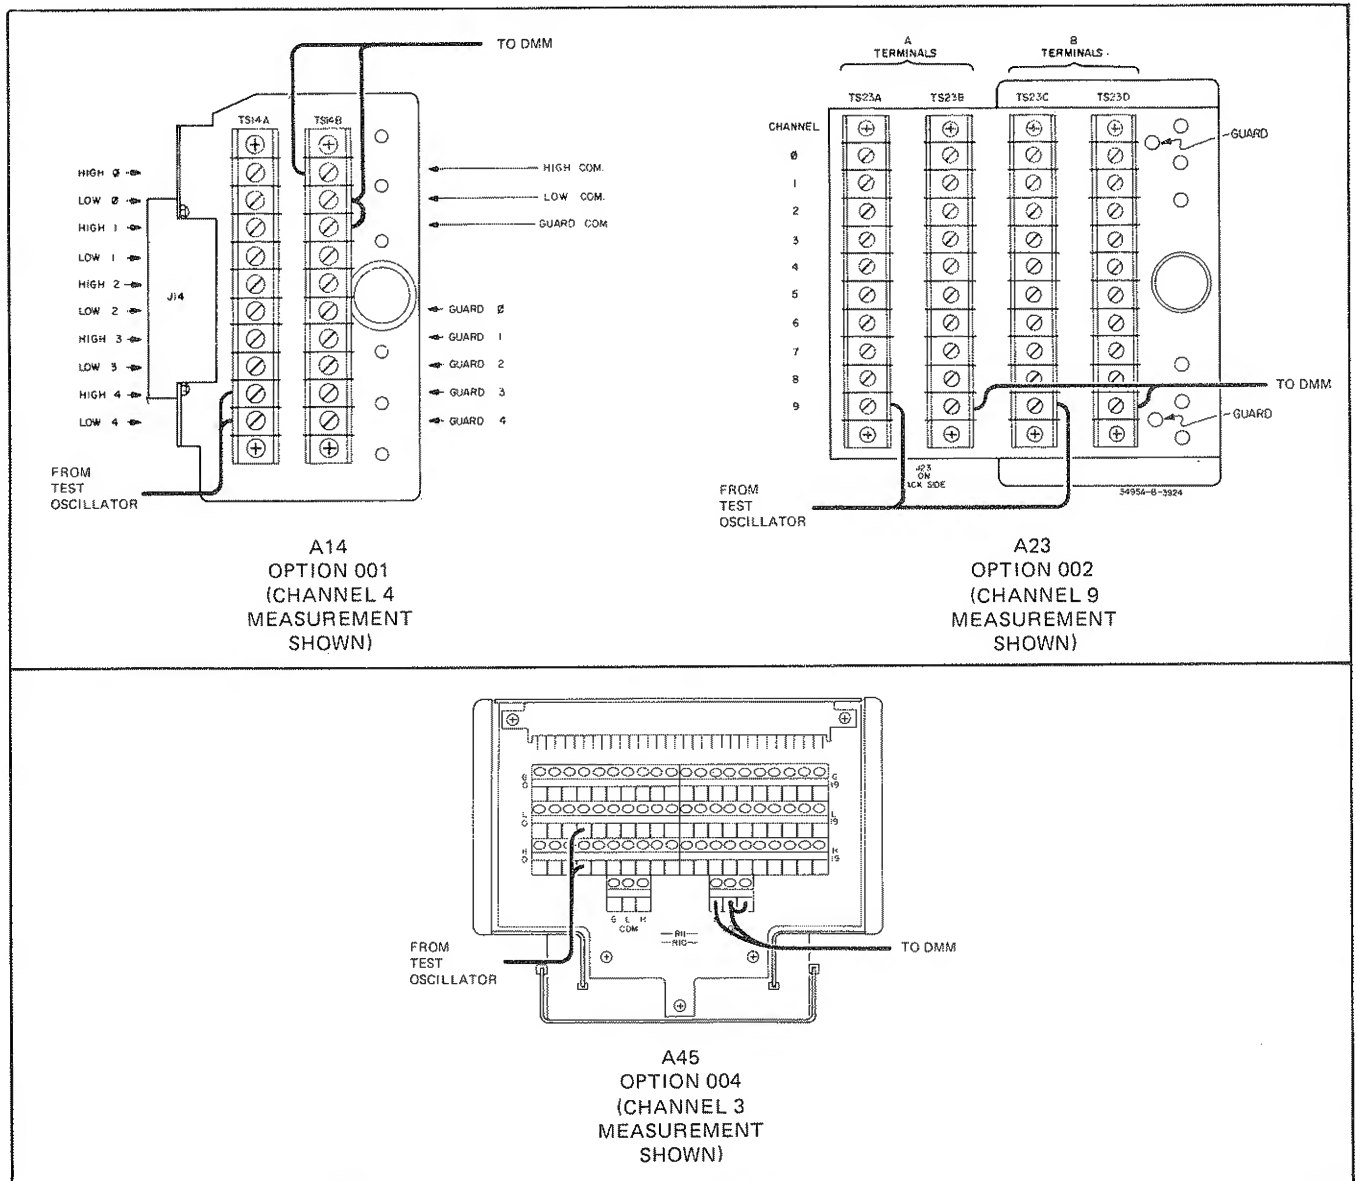

Figure 4-9. Frequency Response Test Wiring Diagrams.
- f. Wire the option connector to the input terminals of the channel to be tested. Refer to Figure 4-9 for representative wiring.